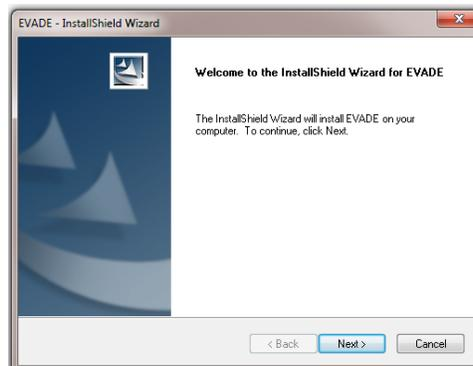

Figure 7. The initial installation window for EVADE.
4. The initial installation window appears (Figure 7). This is the Setup Wizard which will guide you through the installation process.